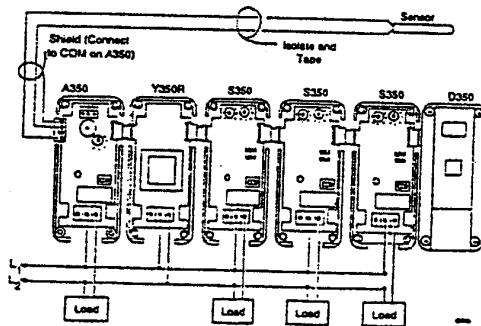

Figure 3: Typical Multistage Temperature Control System
The direct/reverse action mode is selected via jumper blocks marked "RA/DA" located on the right side of the circuit board above the relay (see Figure 3). Mounting the blocks on the pins in the vertical position selects heating/humidification/reverse action operation. Mounting the blocks on the pins in the horizontal position selects cooling/dehumidification/direct action operation. As shipped from the factory, the blocks are installed in the horizontal position.
The stage modules plug into the control and other add-on modules via five-pin connectors located on either side of each module. Wiring to a controlled device is made at the NO/NC relay terminal strip (see Figure 3).
2. Position the mode jumpers to the desired mode of operation. (See Figure 3 for jumper block positioning.)